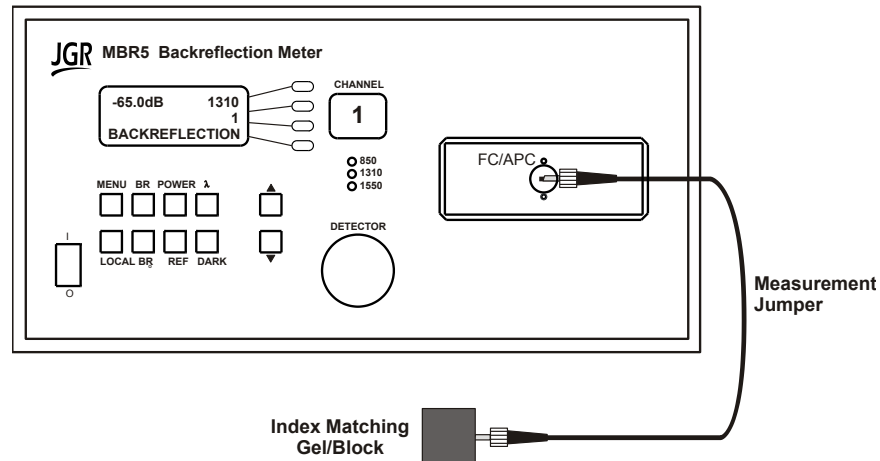

Figure 14: Index-Matching Termination Technique (Multimode)
1. Insert ferrule into an index matching gel/block to terminate all reflections. When using an index matching block, apply light pressure and move the angle of the ferrule slightly until the lowest BR value is achieved. See Figure 14.